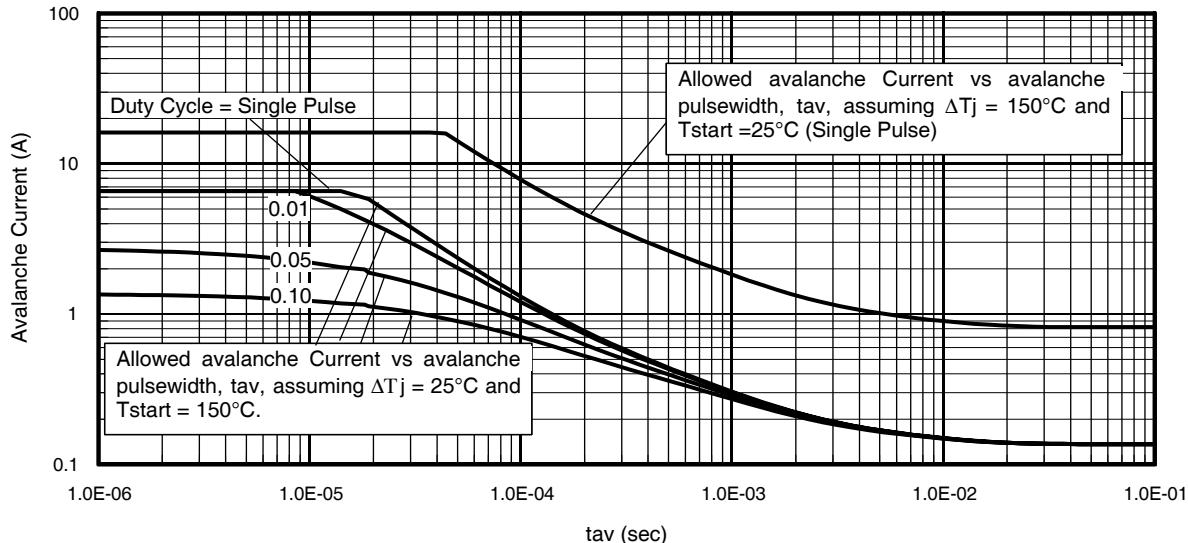

Fig 14. Typical Avalanche Current Vs.Pulsewidth
- ① Repetitive rating; pulse width limited by max. junction temperature.
② Starting $T_J = 25^\circ\text{C}$, $L = 1.46\text{mH}$, $R_G = 25\Omega$, $I_{\text{AS}} = 10\text{A}$.
③ Pulse width $\leq 400\mu\text{s}$; duty cycle $\leq 2\%$.
④ R_θ is measured at T_J of approximately 90°C .
⑤ Limited by $T_{j\text{max}}$. See Figs. 14, 15, 17a, 17b for repetitive avalanche information
Notes on Repetitive Avalanche Curves , Figures 14, 15:
7. ΔT = Allowable rise in junction temperature, not to exceed T_{jmax} (assumed as 25°C in Figure 14, 15).